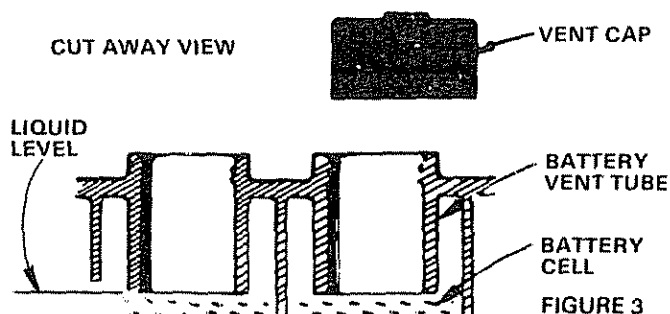

FIGURE 3
- a. Fill each cell with battery acid. Add the acid until it reaches the bottom of the vent tubes (Fig 3) Do not add the acid beyond this level or the additional acid can come out when the battery is charged.